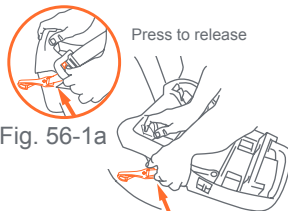

Fig. 56-1a
8. To remove the base from the vehicle, squeeze the webbing release button on the **UAS** connector to loosen the webbing (Fig. 56-1a). Please note that the **UAS** connector can not be released from the **UAS** anchor if the webbing is tight.